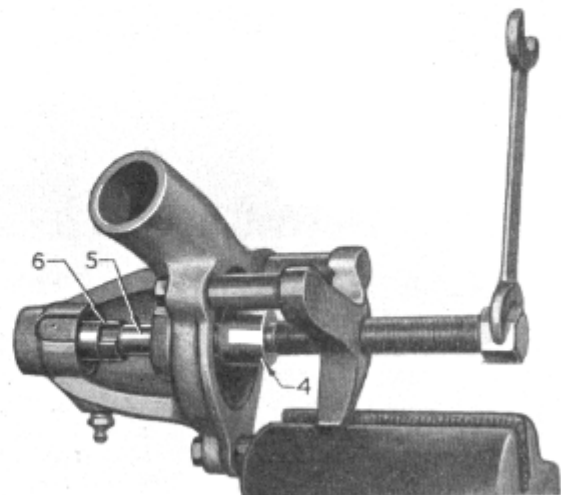

Figure 7
(8) Fig. 7—With round pilot (4) still in position on screw, insert shaft (5) through front bearing and into hole in pilot (4). Put small horseshoe (6) in shaft and tighten screw, forcing out front bearing.